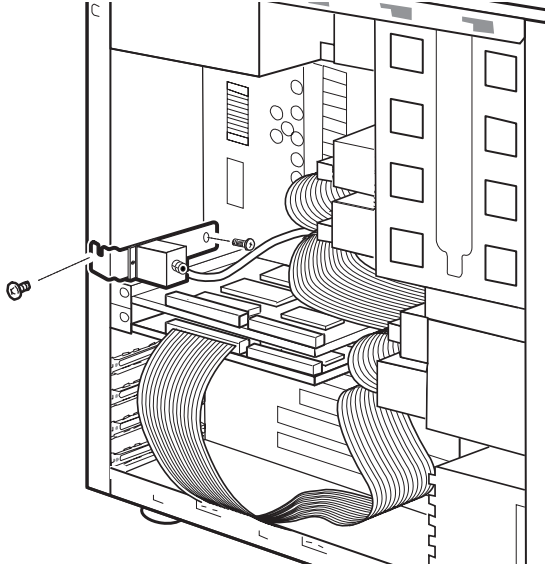

Figure 13. Securing the Ethernet PCI Bracket
2. The other end of the Ethernet connection cable is attached to a PCI bracket. Secure the Ethernet PCI bracket to an open PCI slot in the host computer's backplane. Confirm that the Ethernet connector and cable do not come in contact with surrounding cards (see Figure 13 on page 30).